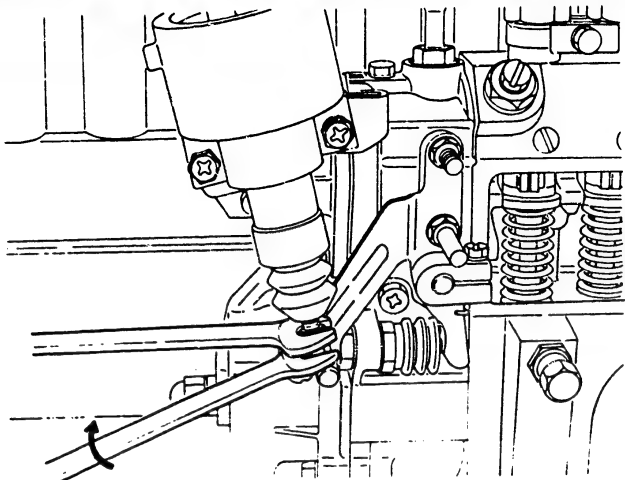

Fig. 81 Cap adjustment
- b. Adjust the cap so that the control rack moves 0.01 to 0.05 mm from position R1 in the "fuel-decrease" direction and secure with the nut. (Figs. 81 and 82)